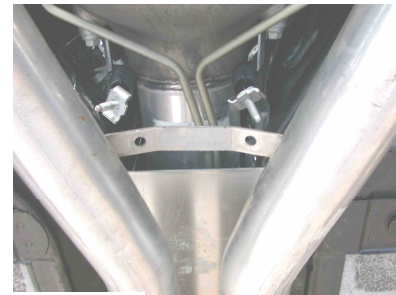

Figure 2
2. Using a 13mm socket, unbolt the spring hangers located just in front of the clamps as shown in figure 2. Place the bolts aside for use during the installation of your new exhaust system.